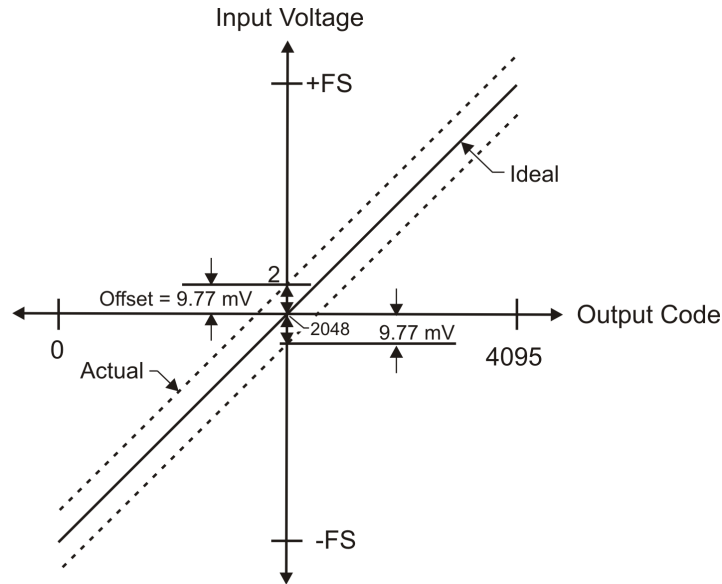

Figure 10. ADC transfer function with offset error
The OM-USB-1208FS offset error is measured at mid-scale. Ideally, a zero volt input should produce an output code of 2048. Any deviation from this is an offset error. Figure 10 shows the OM-USB-1208FS transfer function with an offset error. The typical offset error specification on the  $\pm 10$  V range is  $\pm 9.77$  mV. Offset error affects all codes equally by shifting the entire transfer function up or down along the input voltage axis.
**The accuracy plots in Figure 10 are drawn for clarity and are not drawn to scale.**